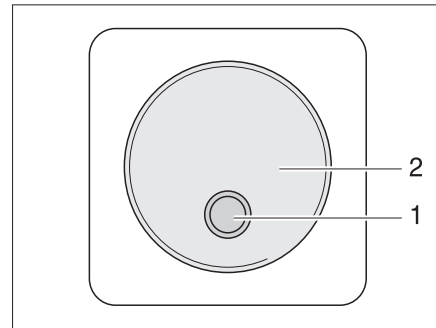

Fig. 237 External switch
- II "Remo." = unit can be switched on and off at the external switch (Fig. 237,1).
The external switch for the converter (Fig. 237) is located in the interior of the vehicle, for example in the entrance area. The switch is labeled with "Converter". The LED (Fig. 237,1) indicates the operating state of the converter.